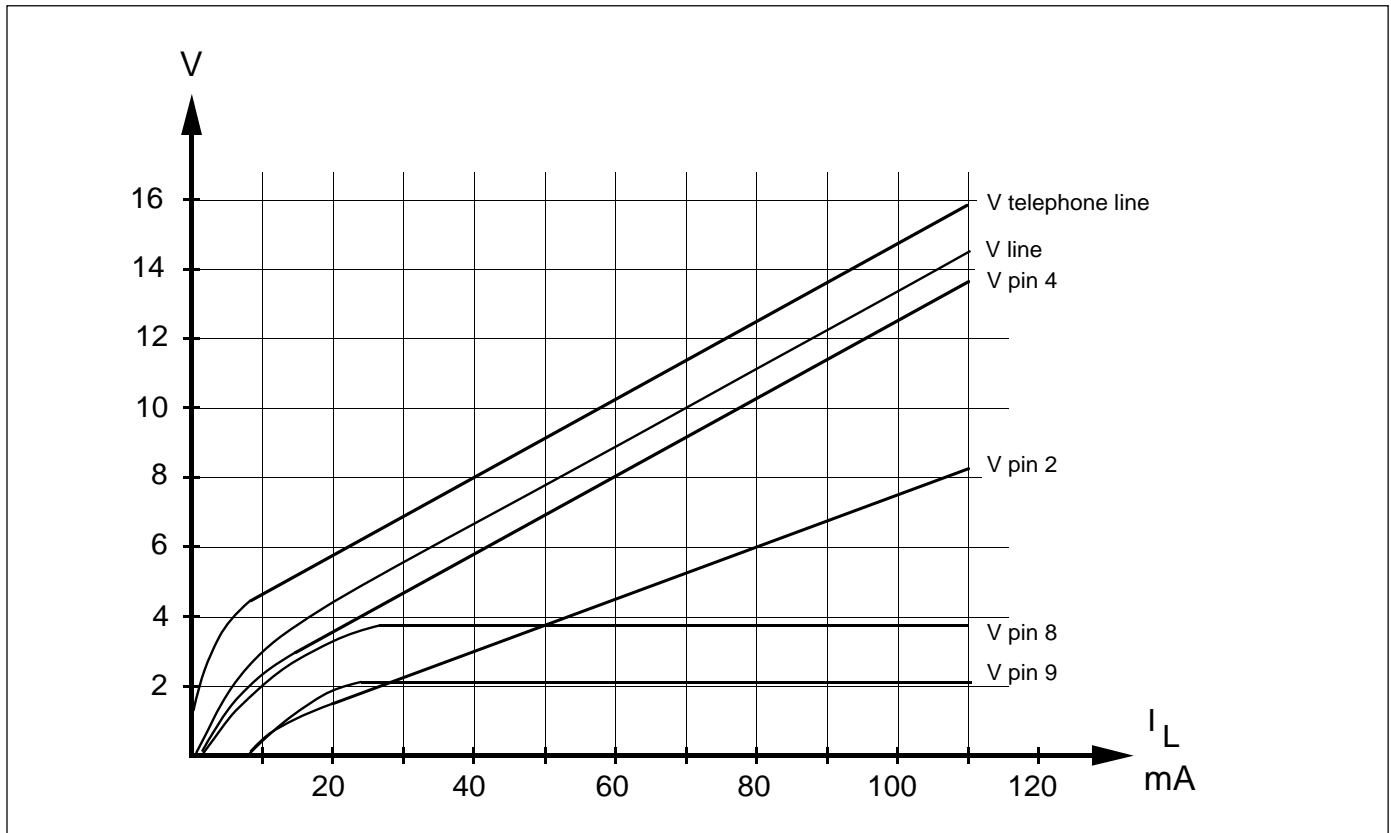

Figure 8. DC-Characteristics. ($R_7 = 75 \Omega$)
- Lowest line current dependent of the set DC-characteristic. See page 14, fig 8.
reasonably good temperature behaviour in order to keep the impedance rather constant. The V+C's influence on the transmitter DC-characteristic is shown in the fig. 8 therefore the transmitter gain would change if the transmitted signal gives reason to an ac-voltage leak signal across $C9$, this being a feedback point. If the transmitter has an unacceptable low swing to the line at low line currents $< \approx 10\text{mA}$ the first should be to examine if the circuits DC-characteristic can be adjusted upwards and first secondly make use of the linear PD.